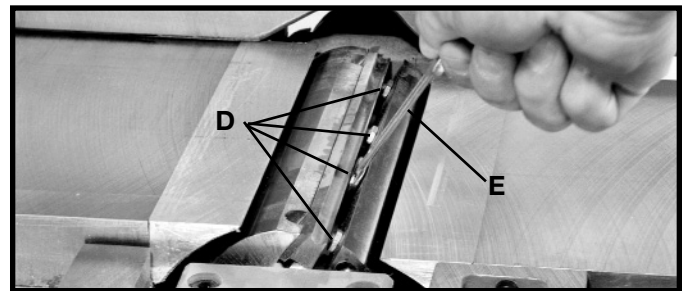
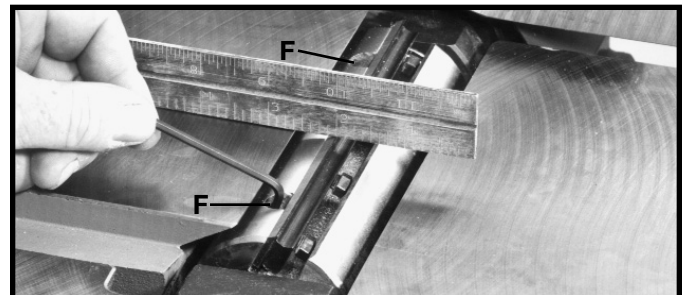

Fig. 25
Fig. 26
5. If the knife is high or low at either end, slightly turn the four screws (D) Fig. 25, in the knife locking bar clockwise to loosen using the wrench (E) supplied. Then adjust the height of the knife by turning the knife raising screws (F) Fig. 26, counterclockwise to lower and clockwise to raise the knife.
If the knife is to be lowered it will be necessary to carefully push down on the knife with a scrap piece of wood, after screws (F) have been turned counterclockwise to achieve desired depth. Tighten four screws (D) Fig. 25, by turning them counterclockwise, after adjustment is made.